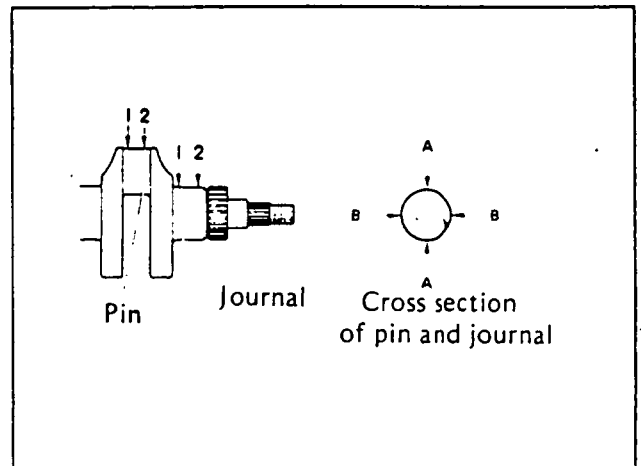

Figure 26. Checking the Crankshaft
2. See Figure 26. Inspect crankshaft journal and pin sections for damage, uneven abrasion, out-of-roundness, and axle diameter.